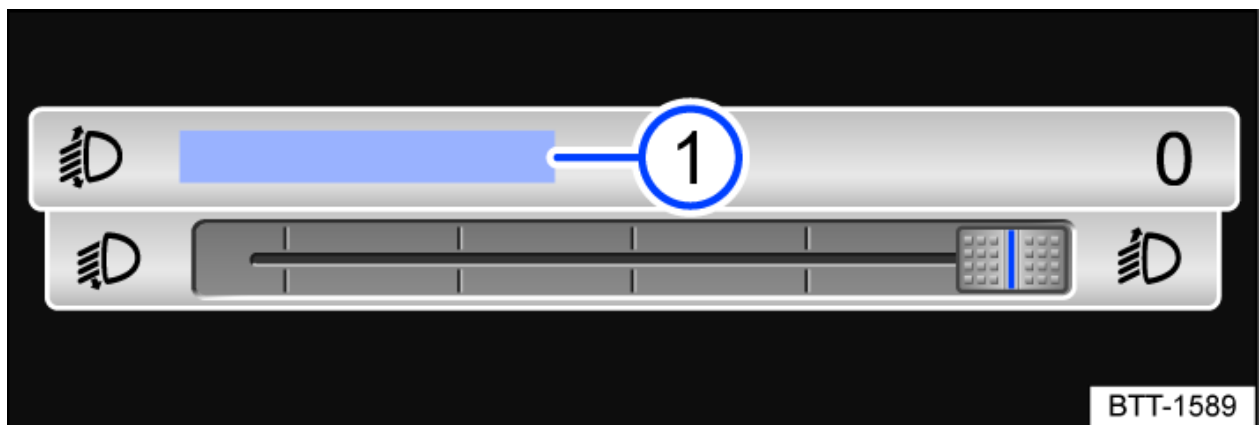

Fig. 1 In the Infotainment system: Touch control for headlight range control.
Depending on the vehicle equipment, the headlight range can be adjusted using the slider in the Infotainment system → *fig. 1*.
- Tap the **Headlight range control** → *fig. 1* **1** function button.